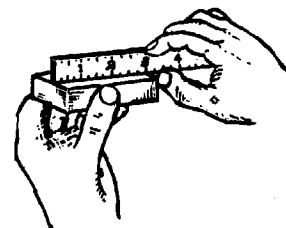

FIG. 1 MEASURING A PIECE OF STOCK
2. With rule held in the right hand and guided by the thumb nail, extend the rule until its end is even with the left hand edge of the work (Fig. 1).